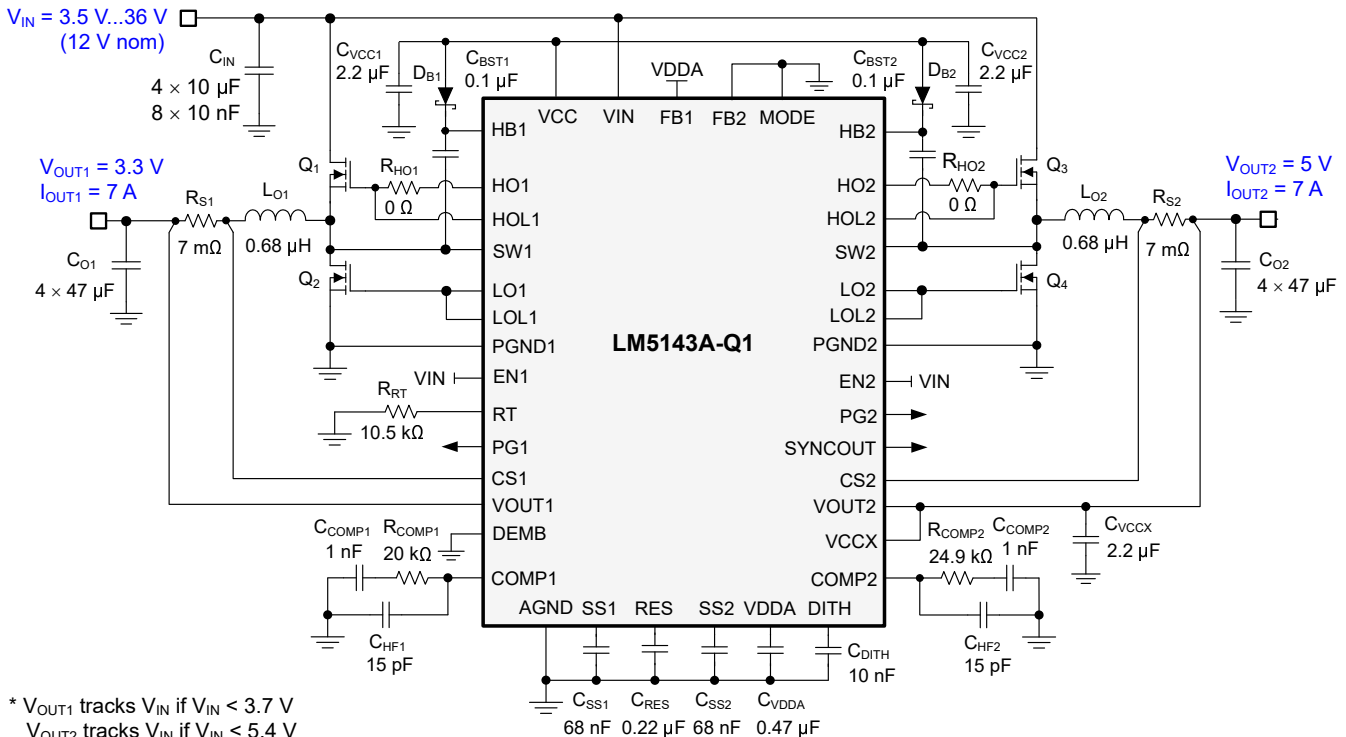

**Figure 10-3. Error Amplifier and Compensation Network**
Figure 10-3 shows a Type-II compensator using a transconductance error amplifier (EA). The dominant pole of the EA open-loop gain is set by the EA output resistance,  $R_{O-EA}$ , and effective bandwidth-limiting capacitance,  $C_{BW}$ , as shown in Equation 28.